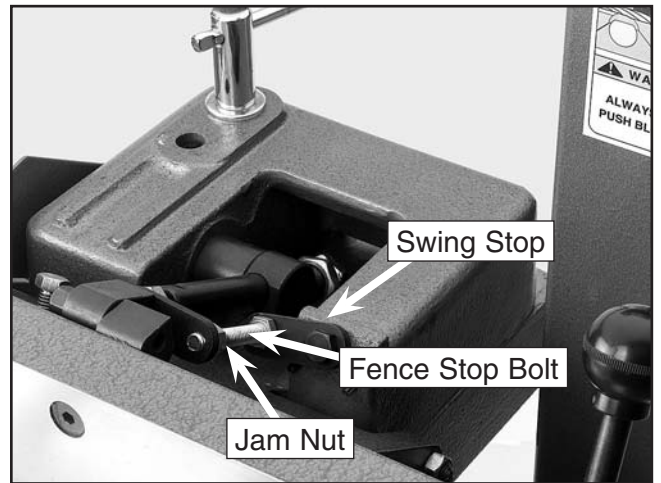

Figure 51. 90° swing stop engaged.
2. Flip the 90° swing stop into the position shown in **Figure 51**.
3. Loosen the jam nut on the 90° fence stop bolt (**Figure 51**).